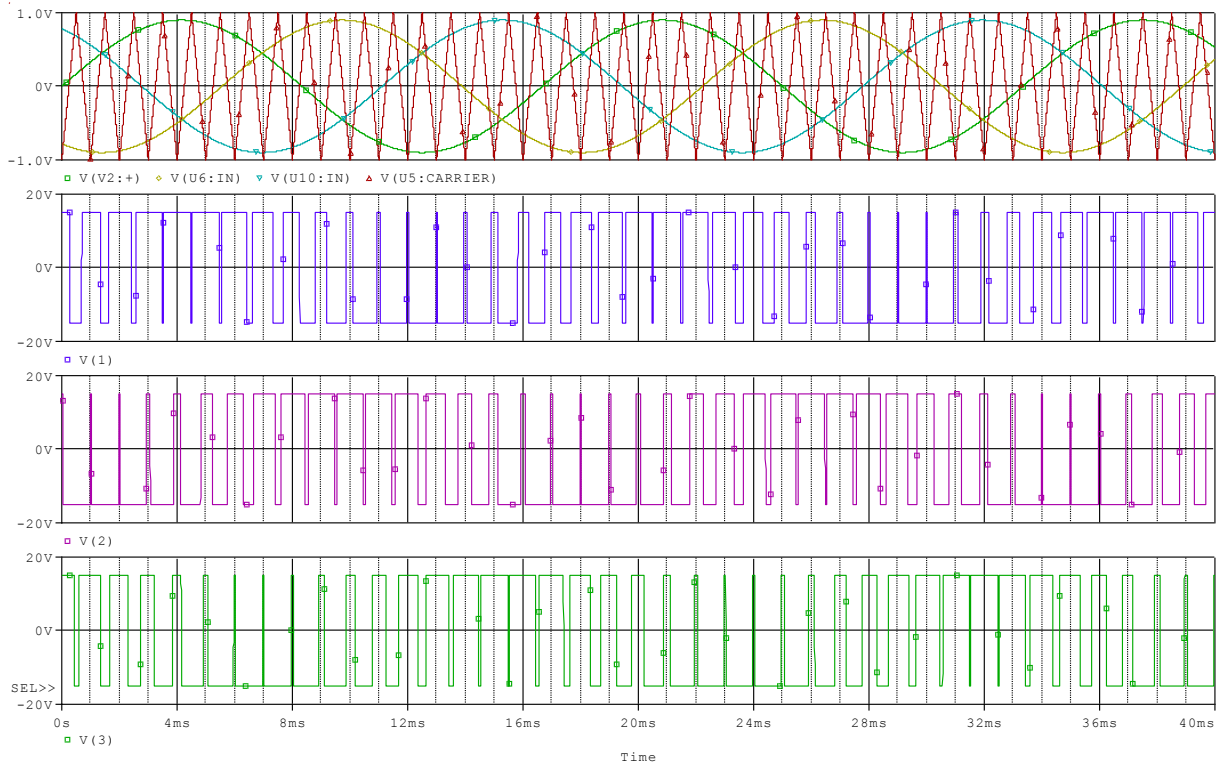
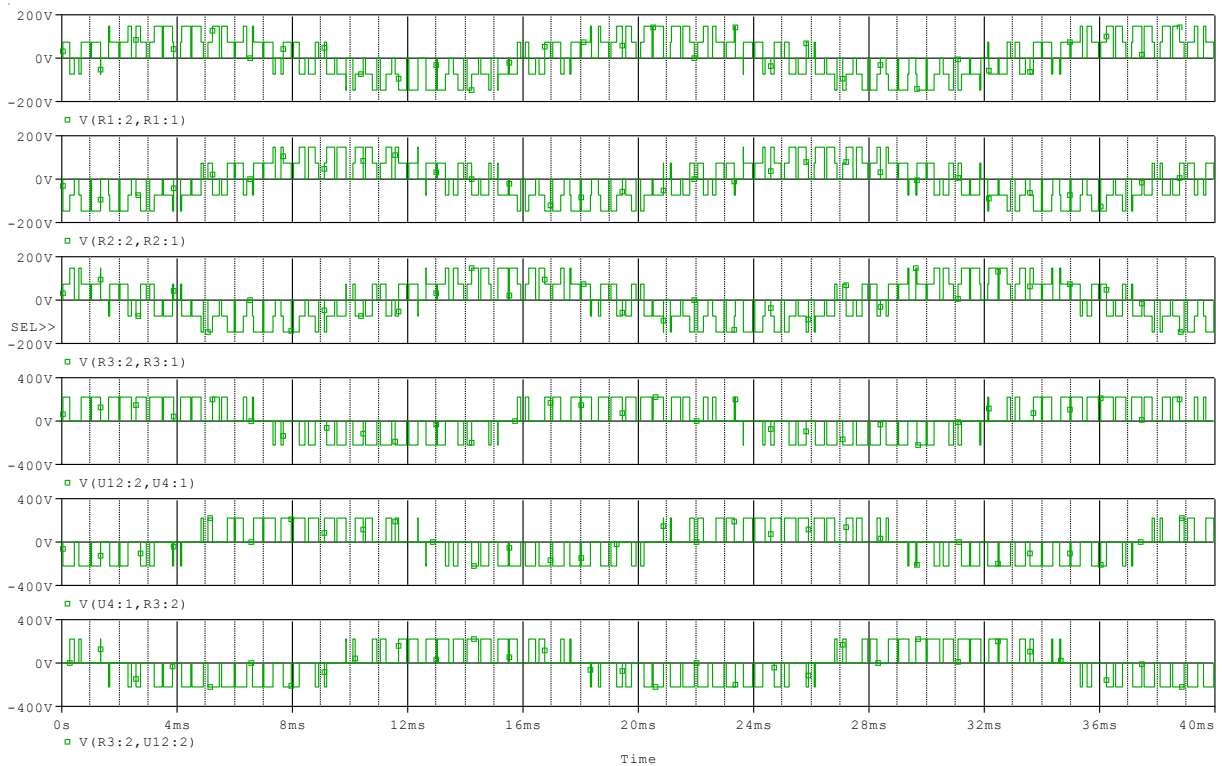
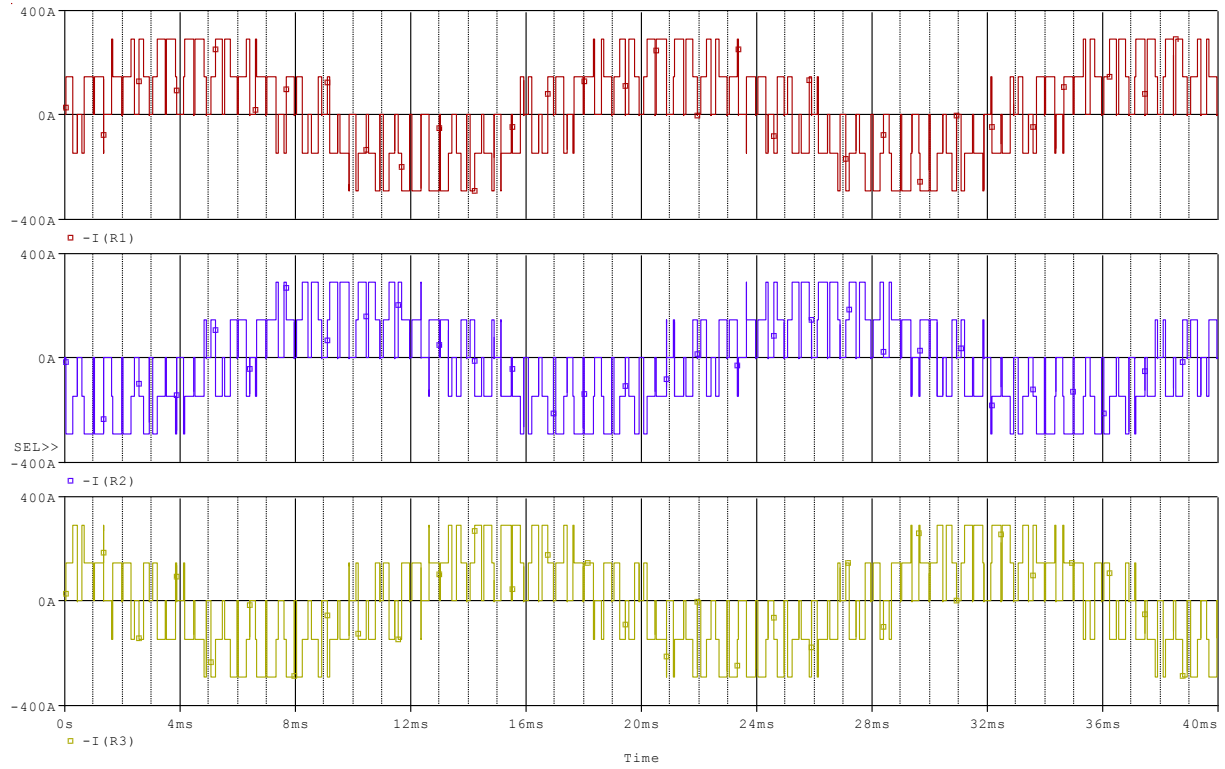

Figure 12
Figure 13
Figure 14
6. Plot reference voltages, carrier wave, gate signals, phase-to-neutral and line-to-line load voltages. Reproduce Figure 12, Figure 13 and Figure 14.